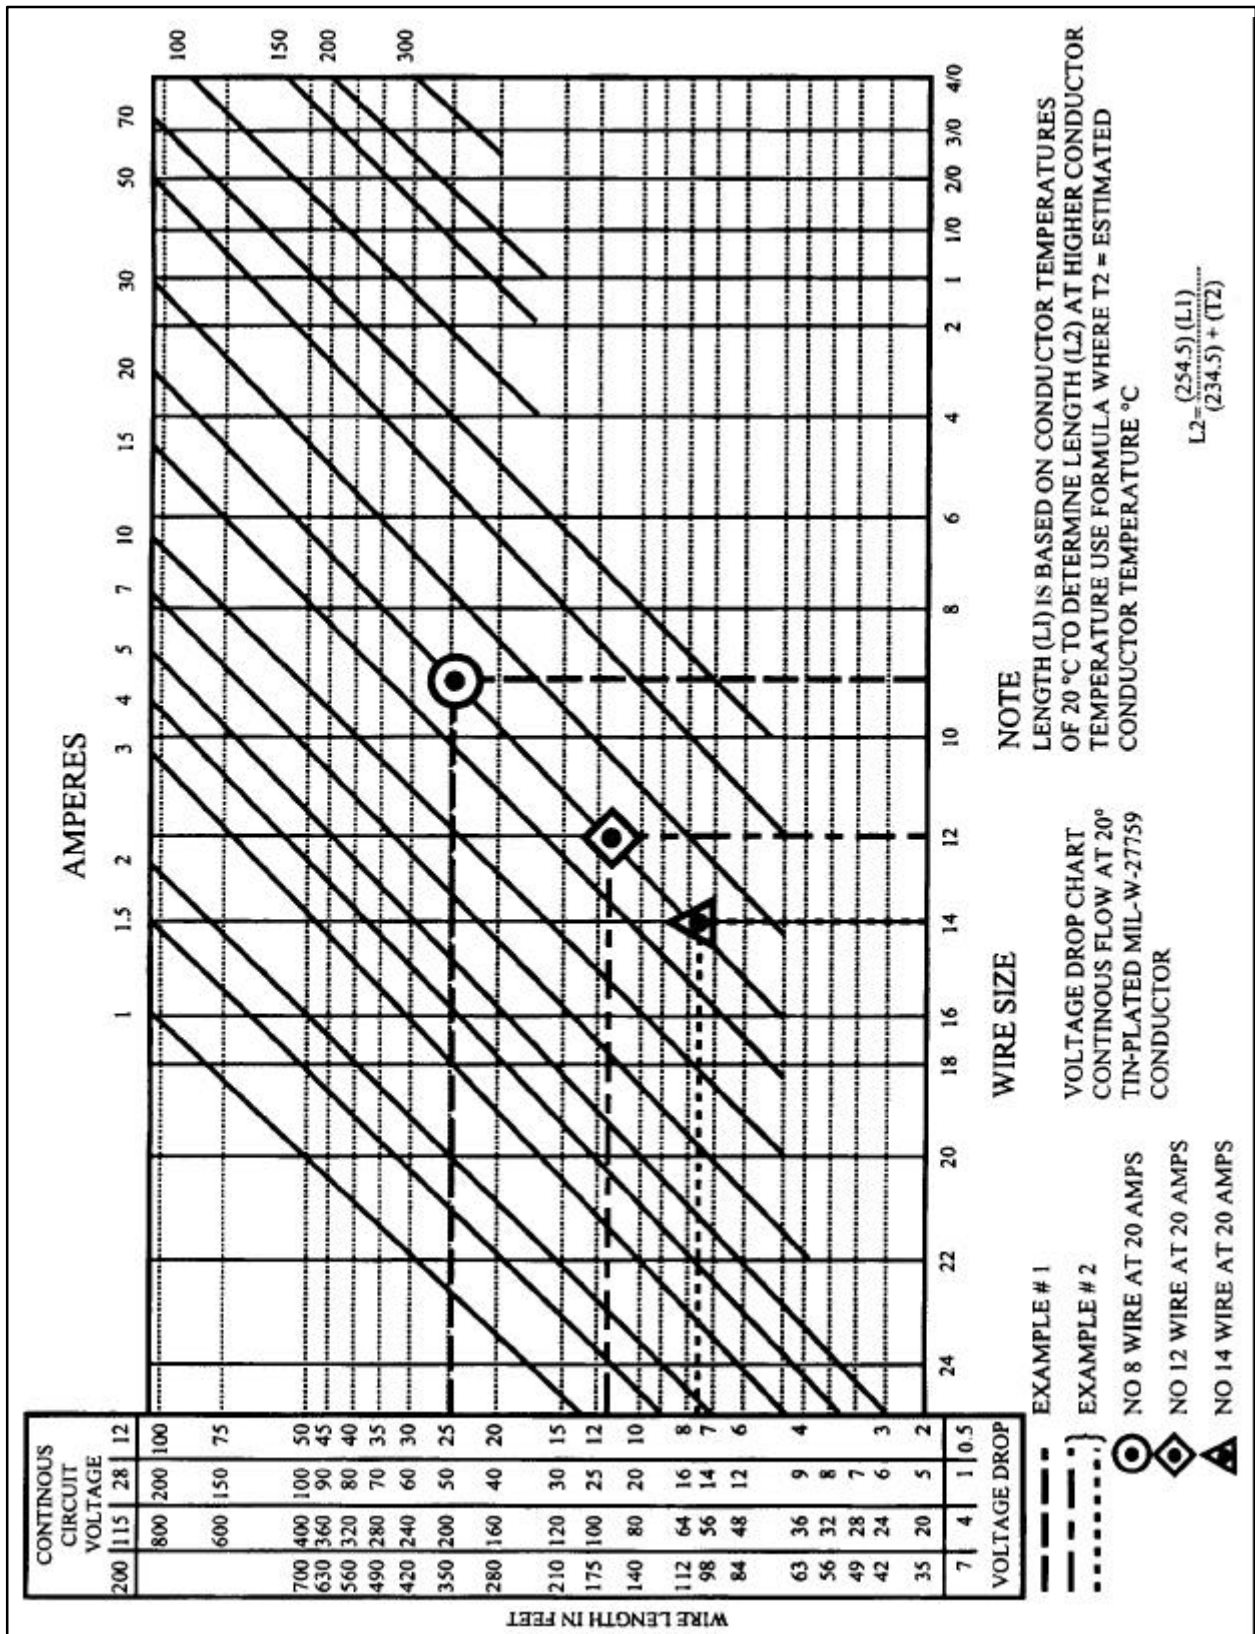
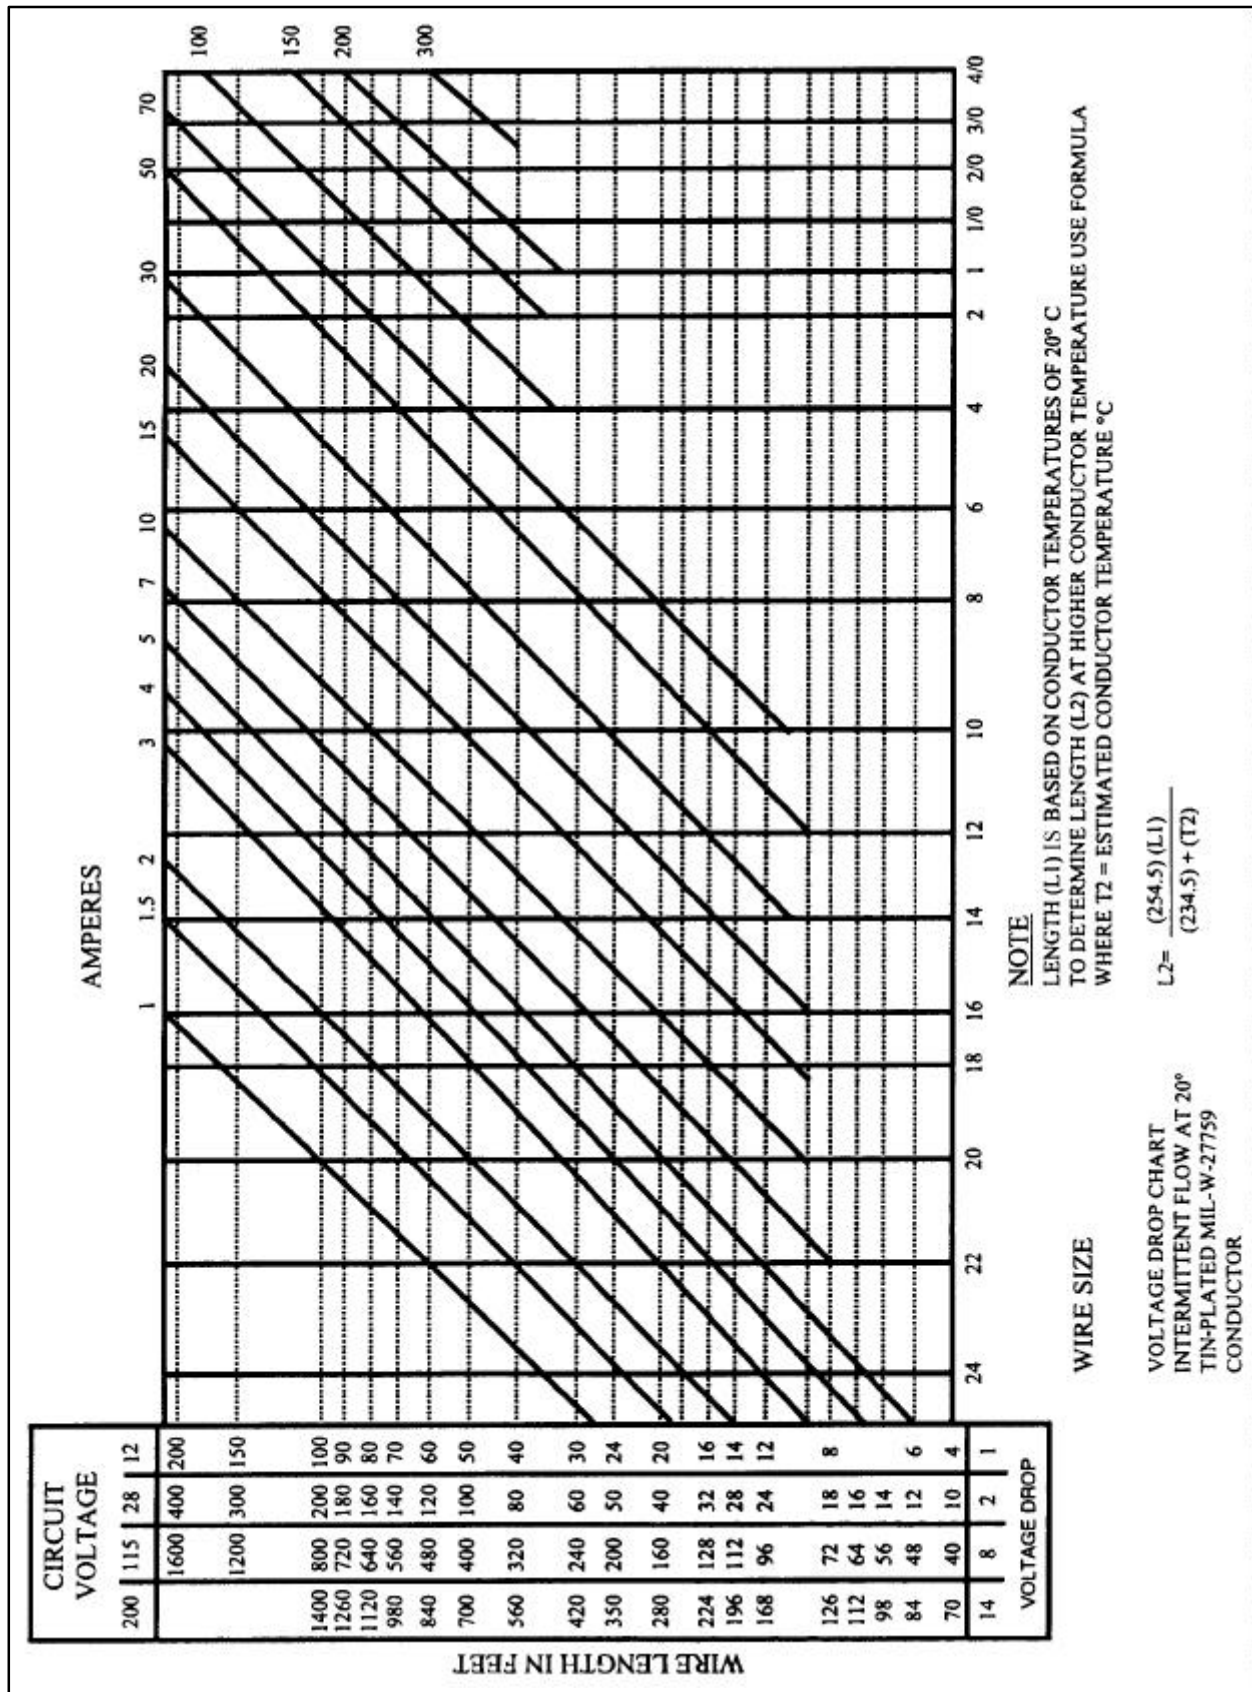
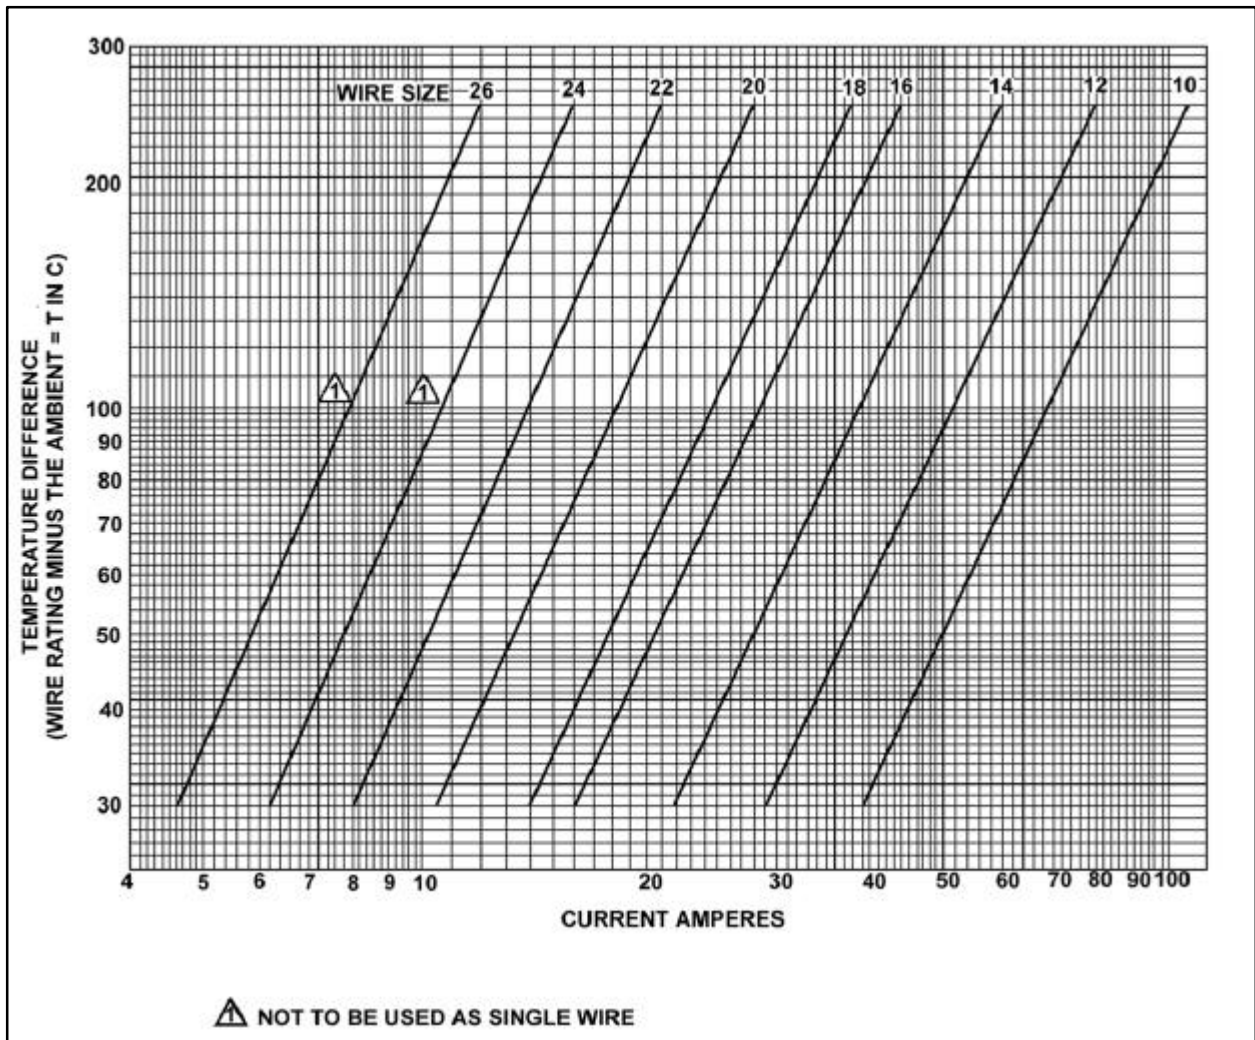
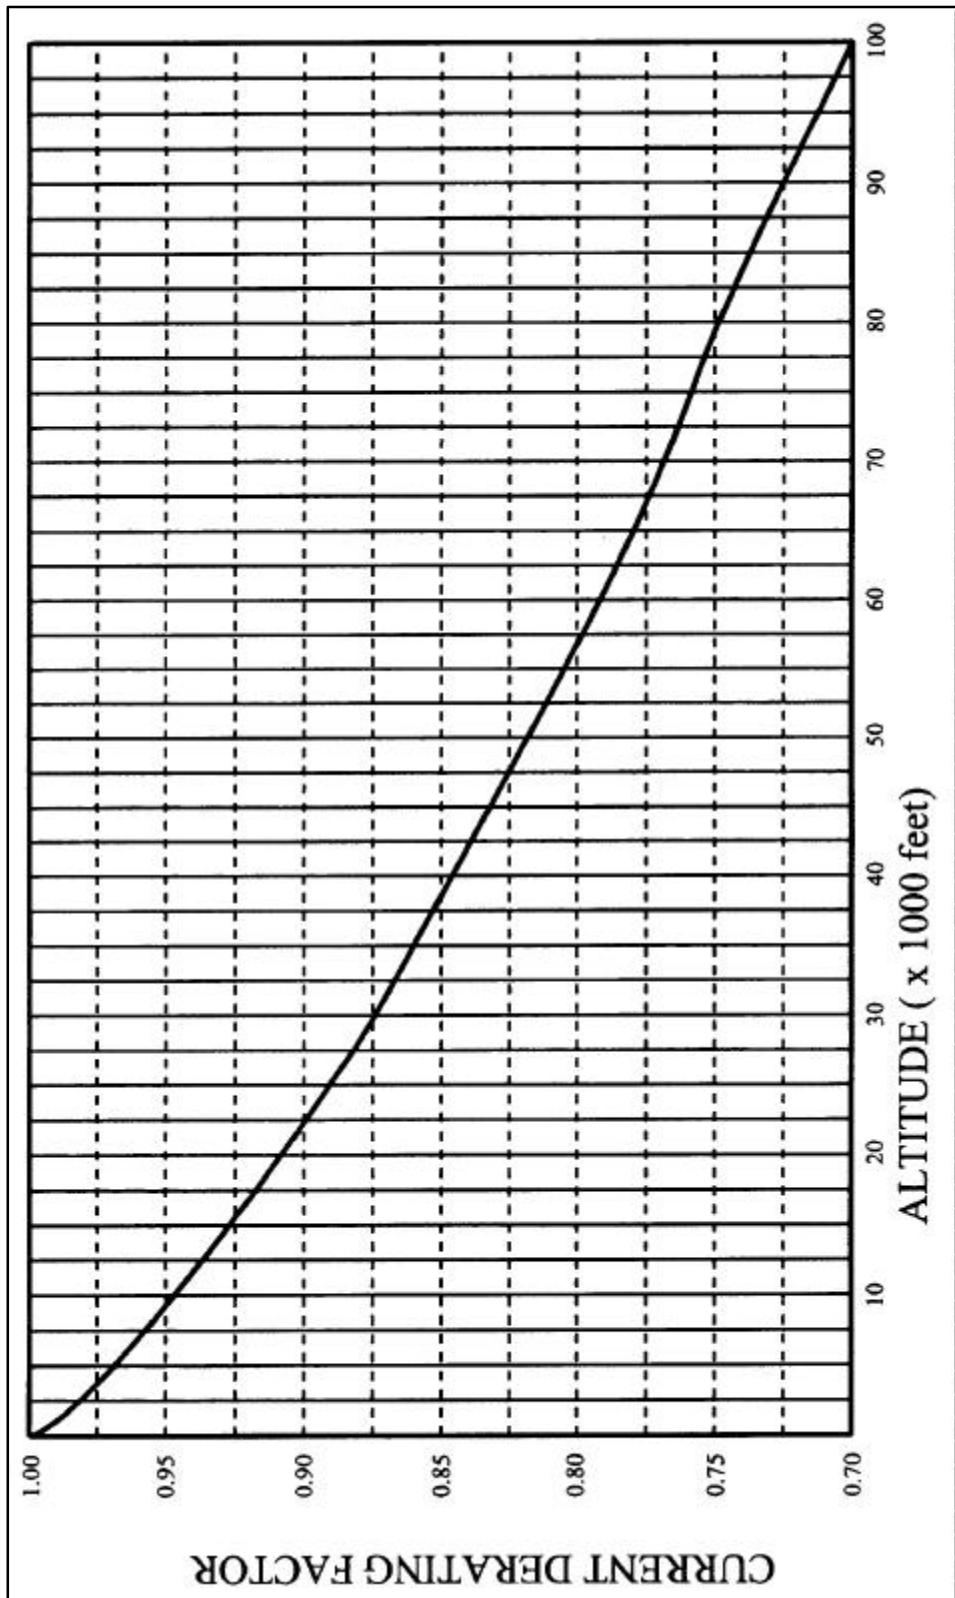

FIGURE 11-2. Conductor chart, continuous flow.
FIGURE 11-3. Conductor chart, intermittent flow.
FIGURE 11-4a. Single copper wire in free air.
FIGURE 11-6. Altitude derating curve.
d. Resistance Calculation Methods. Figures 11-2 and 11-3 provide a convenient means of calculating maximum wire length for the given circuit current.
(1) Values in tables 11-7 and 11-8 are for tin-plated copper conductor wires. Because the resistance of tin-plated wire is slightly higher than that of nickel or silver-plated wire, maximum run lengths determined from these charts will be slightly less than the allowable limits for nickel or silver-plated copper wire and are therefore safe to use. Figures 11-2 and 11-3 can be used to derive slightly longer maximum run lengths for silver or nickel-plated wires by multiplying the maximum run length by the ratio of resistance of tin-plated wire, divided by the resistance of silver or nickel-plated wire.
TABLE 11-7. Examples of determining required wire size using figure 11-2.
TABLE 11-8. Examples of determining maximum run length using figure 11-3.
(2) As an alternative method or a means of checking results from figure 11-2, resistance for a given wire size can be read from table 11-9 and multiplied by wire run length and circuit current.
(3) Voltage drop calculations for aluminum wires can be accomplished by multiplying the resistance for a given wire size, defined in table 11-10, by the wire run length and circuit current.
(4) When the estimated or measured conductor temperature (T₂) exceeds 20 °C, such as in areas having elevated ambient temperatures or in fully loaded power-feed wires, the maximum allowable run length (L₂), must be shortened from L₁ (the 20 °C value) using the following formula for copper conductor wire:
c. Single Wire in Free Air. Determining a wiring system's current carrying capacity begins with determining the maximum current that a given-sized wire can carry without exceeding the allowable temperature difference (wire rating minus ambient °C). The curves are based upon a single copper wire in free air. (See figures 11-4a and 11-4b.)
e. Harness at Altitude. Since heat loss from the bundle is reduced with increased altitude, the amount of current should be de-rated. Figure 11-6 gives a curve whereby the altitude derating factor may be obtained.
(1) The wire size should be sufficient to prevent an excessive voltage drop while carrying the required current over the required distance. (See table 11-6, Tabulation Chart, for allowable voltage drops.)
(2) The size should be sufficient to prevent overheating of the wire carrying the required current. (See paragraph 11-69 for allowable current carrying calculation methods.)
b. Two Requirements. To meet the two requirements (see paragraph 11-66b) in selecting the correct wire size using figure 11-2 or figure 11-3, the following must be known:
- (1) The wire length in feet.
- (2) The number of amperes of current to be carried.
(3) The allowable voltage drop permitted.
(4) The required continuous or intermittent current.
(5) The estimated or measured conductor temperature.
(6) Is the wire to be installed in conduit and/or bundle?
(7) Is the wire to be installed as a single wire in free air?
c. Example No. 1. Find the wire size in figure 11-2 using the following known information:
(1) The wire run is 50 feet long, including the ground wire.
(2) Current load is 20 amps.
(3) The voltage source is 28 volts from bus to equipment.
(4) The circuit has continuous operation.
(5) Estimated conductor temperature is 20 °C or less.
STEP 3: At this point, drop vertically to the bottom of the chart and select the next wire size to the right. This is the smallest size wire that can be used without exceeding the voltage drop limit expressed at the bottom of the left scale. This example is plotted on the wire chart, figure 11-2. Use figure 11-2 for continuous flow and figure 11-3 for intermittent flow.
d. Procedures in Example No. 1. The procedures in example No. 1, paragraph 11-68c, can be used to find the wire size for any continuous or intermittent operation (maximum two minutes). Voltage (e.g. 12 volts, 28 volts, 115 volts, 200 volts) as indicated on the left scale of the wire chart in figure 11-2 and 11-3.
(1) The wire run is 15 feet long, including the ground wire.
(2) Circuit current is 20 amps, continuous.
(3) The voltage source is 28 volts.